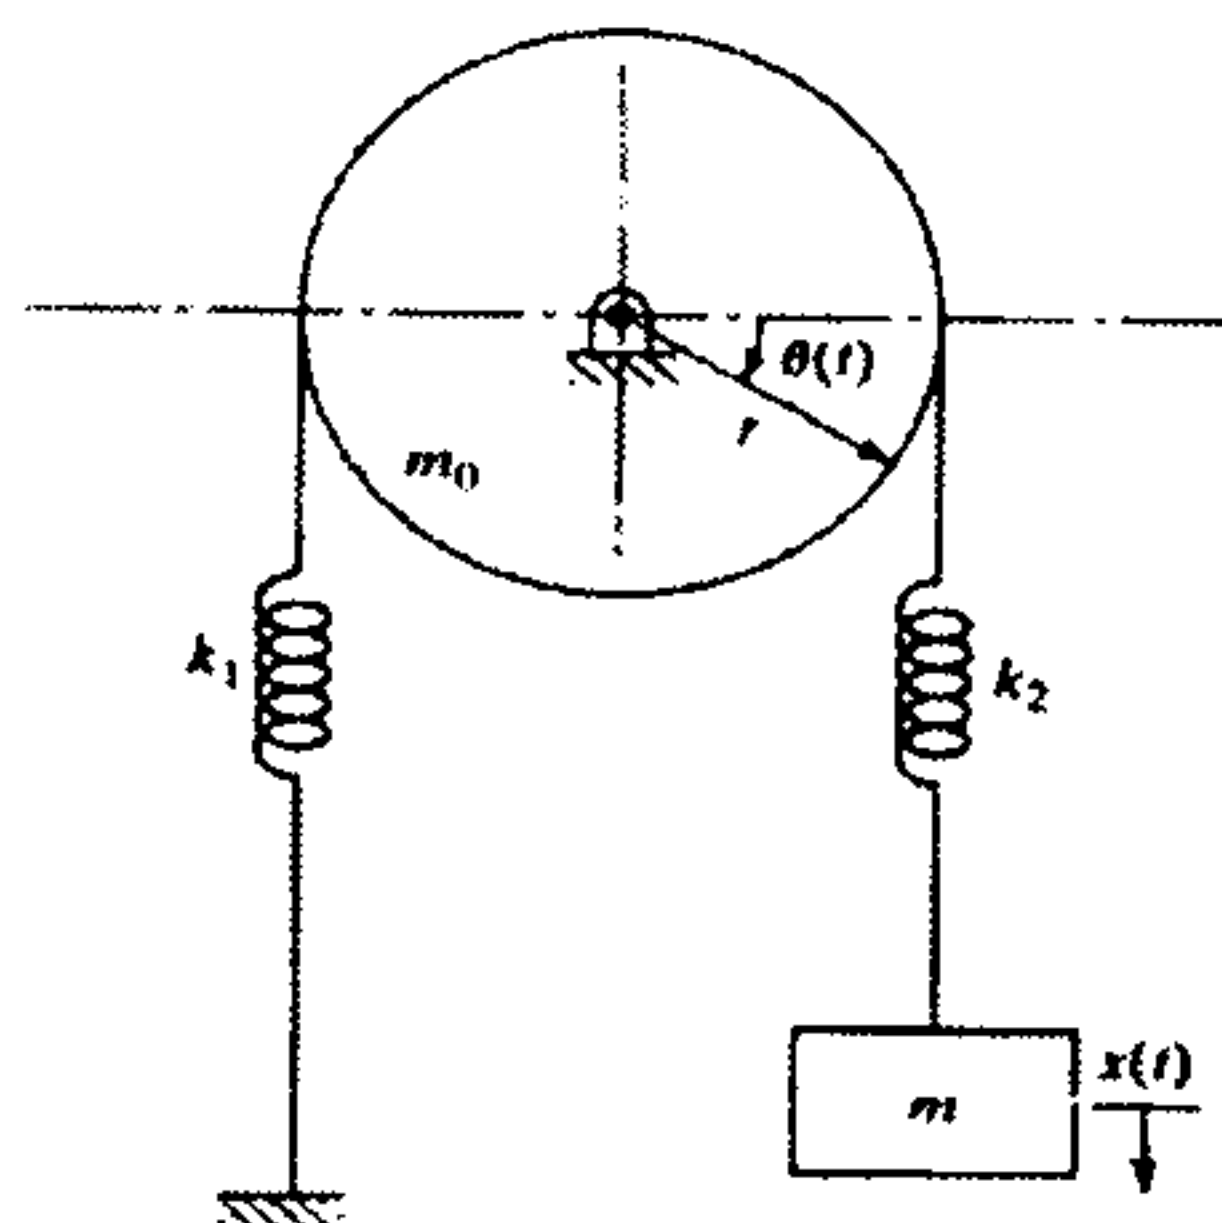

Fig 3
- 3) Determine the natural frequencies of the system shown in figure 3 by assuming that the rope passing over the cylinder does not slip. 14M